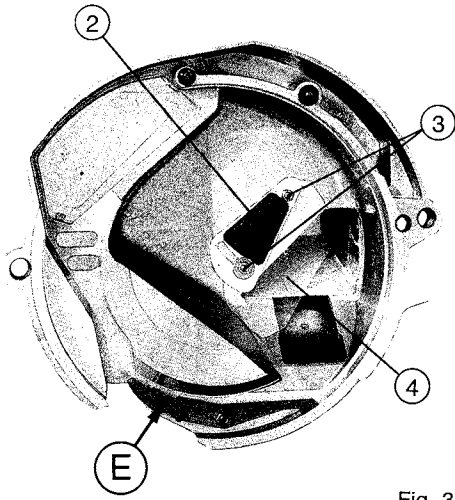

Fig. 34
**1- High position (fig. 34) For Large Seeds**